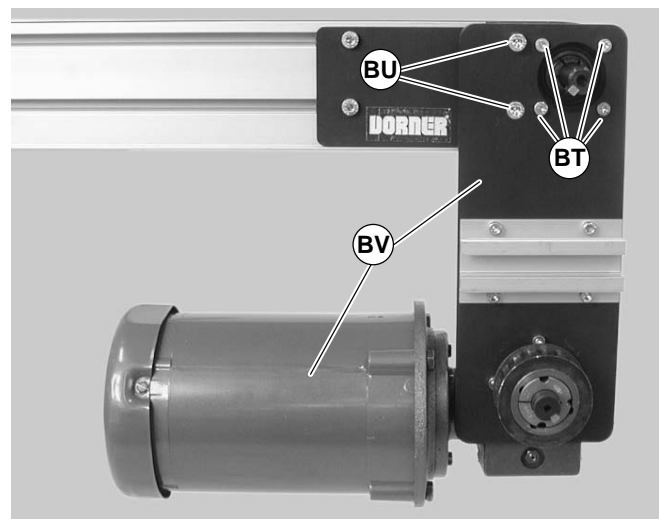

Figure 53
- 5) Remove four (4) M5 mounting screws (BT of Figure 53) and two (2) M8 mounting screws (BU).
- 6) Remove gearmotor and mounting plate assembly (BV of Figure 53).